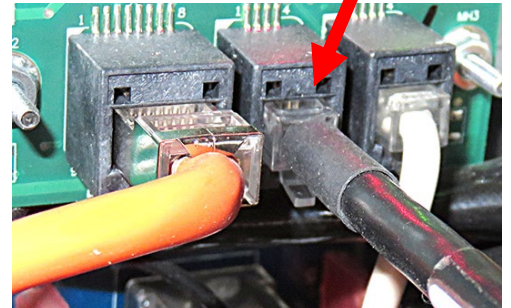

Figure 17
20. Attach the the RJ11 connector end of the adaptor, to the SIB board, where the terminator was removed in step 15 (see Figure 17).